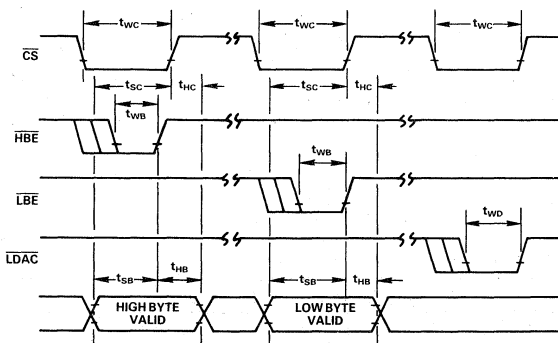

Figure 1. AD569 Timing Diagram
- 1Write strobe applied to  $\overline{CS}$  as shown in Figure 19a. Address decoding defines which register(s) data is strobed into (see Figure 1).
- 2Write strobe applied to  $\overline{HBE}$  and/or  $\overline{LBE}$  as in Figure 18 or applied to  $\overline{LDAC}$  separately. DAC base address applied to  $\overline{CS}$  (see Figure 1).